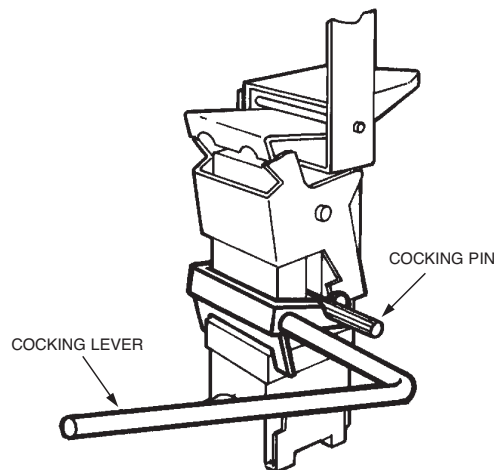

FIGURE 41
10. Insert cocking lever (Part No. 14995) on left side of the release mechanism, with the movable flange resting securely against the corner of the cartridge receiver and spring housing, and with the notched lever portion engaging the cocking pin on **both** sides of the release mechanism. See Figure 41.